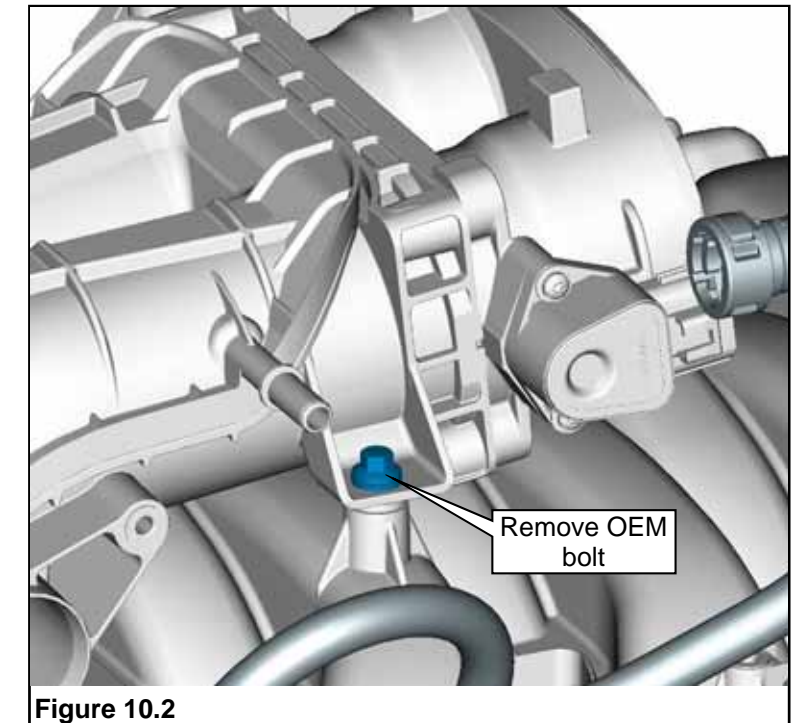

Figure 10.2
1. Remove the OEM throttle body adapter M6 x 20 mounting bolt. Reuse this bolt to help secure the FRPCM bracket. **Figure 10.2.**